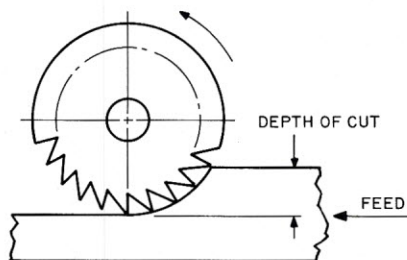

Figure 5. Peripheral up milling.
**Up Milling.** The cutting action of a milling cutter when it is rotating against the direction of material feed. Tends to pull the part up from the table. (Figure 5.)